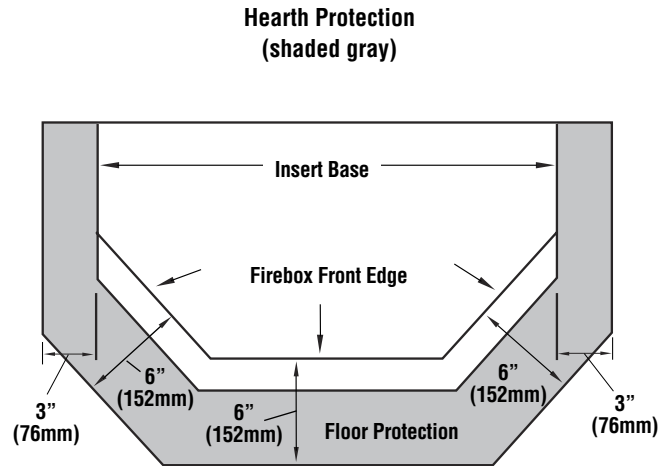

Figure 7
* This fireplace insert can fit into a fireplace with a narrower width in the front (32" min. instead of 36" min.) when the 3" Deep ZC Surround Kit is used (P/N 79032). See Figure 11C on Page 11 for more information. Please take note that because the appliance will be positioned in a more forward position on the existing hearth, additional floor protection may need to be added to the front of the appliance (see Figure 7).
The floor protector must be a non-combustible material extending beneath the insert from the surround panels forward and to the front and sides as shown in **Figure 7**. **Important, if anything other than a masonry hearth is used in the installation you must use the Heat Kit (Cat. No. 79024).**